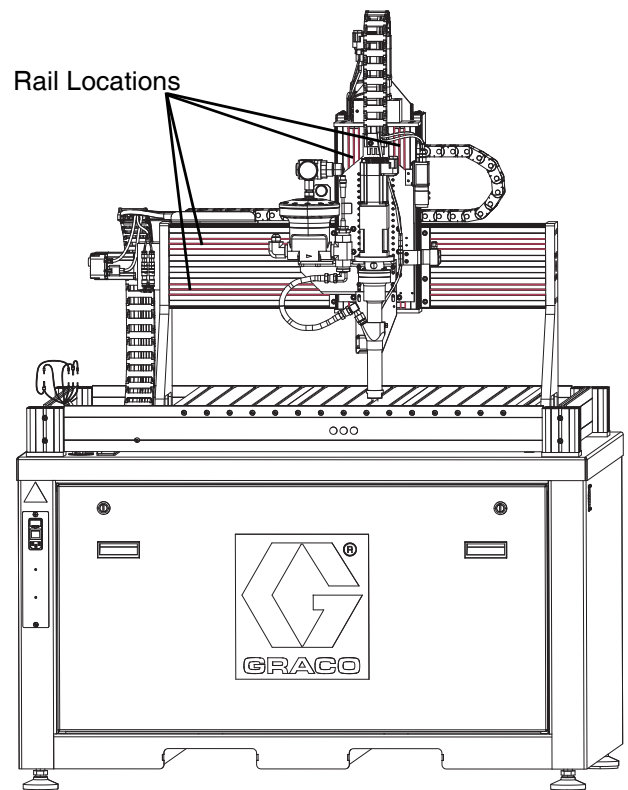

FIG. 16: Rubber Guard and Rail Locations
2. Spread the rubber guards apart at each of the four locations and brush oil onto the rails. See **Figure 16**.